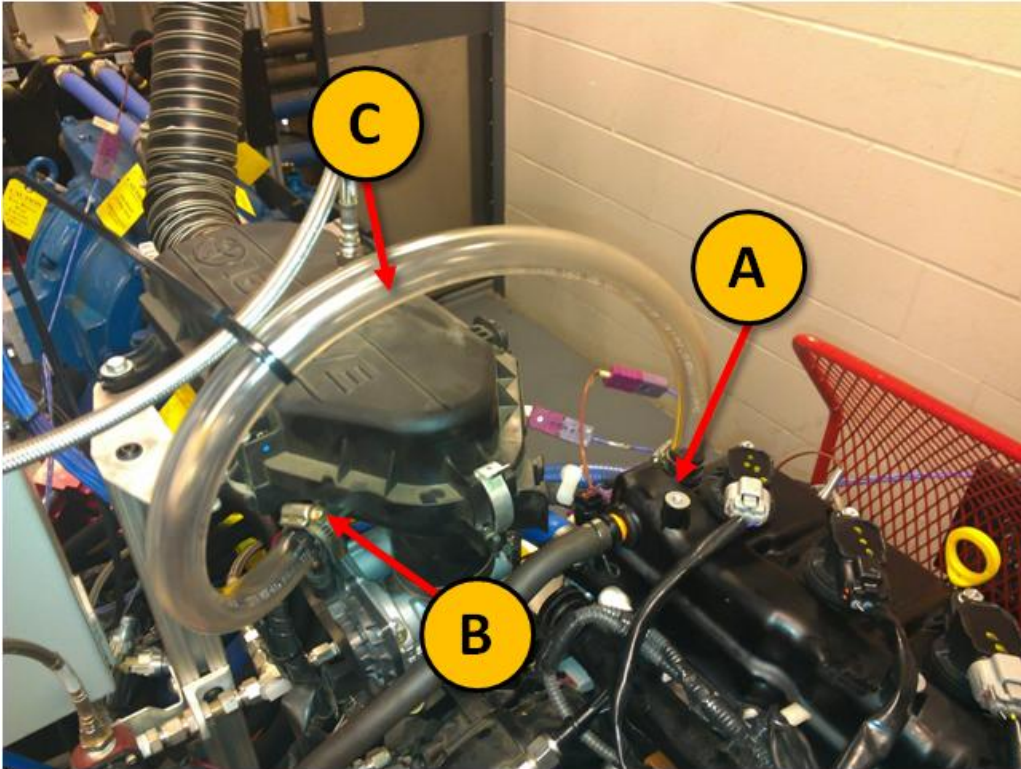

Figure 2: Routing of fresh air. (A) Port to valve train cover, (B) port from intake air filter housing, (C) 15 mm diameter Tygon hose
- 2.2. Refer to Figure 2. Connect the port (A) on the valve train cover to port (B) on the intake air filter housing with the 15.8 mm diameter Tygon hose (C).